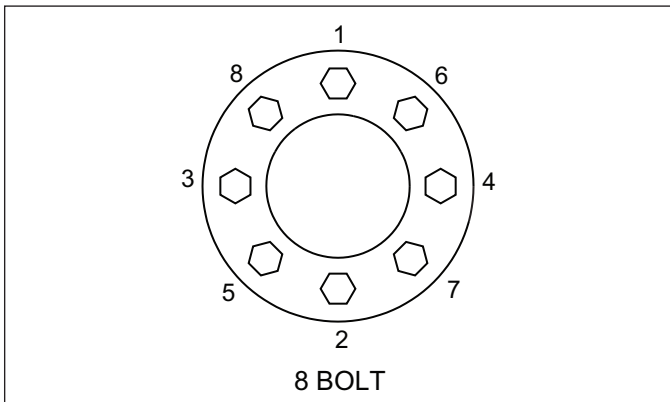

Figure 2-46: Stud Tightening Sequence
4. Re-Install the 5/8-18 Nuts and tighten to 50 Ft-Lbs using the sequence in **Figure 2-46.** Then tighten to full torque of 130-150 Ft-Lbs.